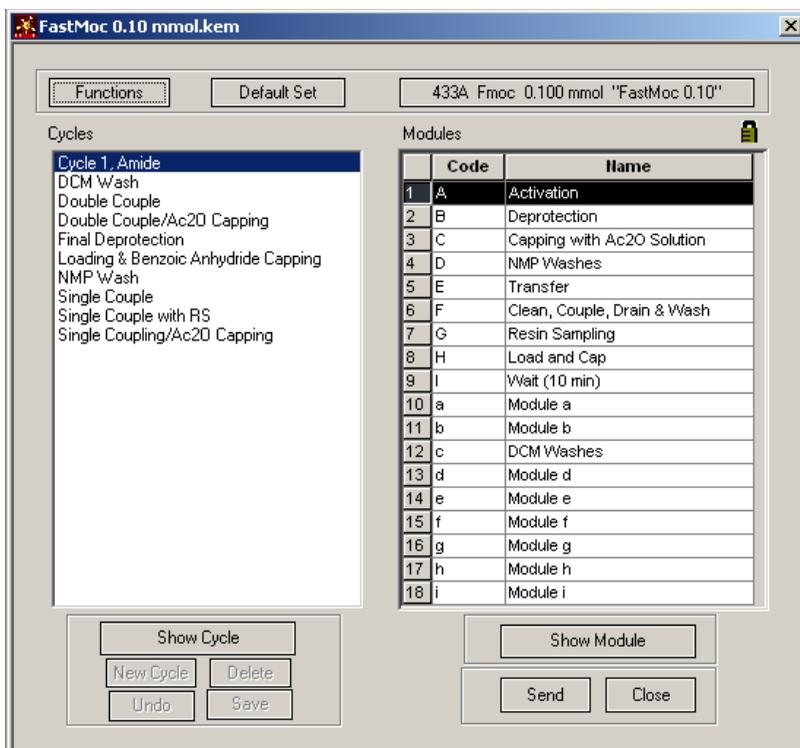

Figure 6-10 Chemistry Screen
1. Click the chemistry file icon in the Run screen (Figure 6-2). The Chemistry screen opens (Figure 6-10).